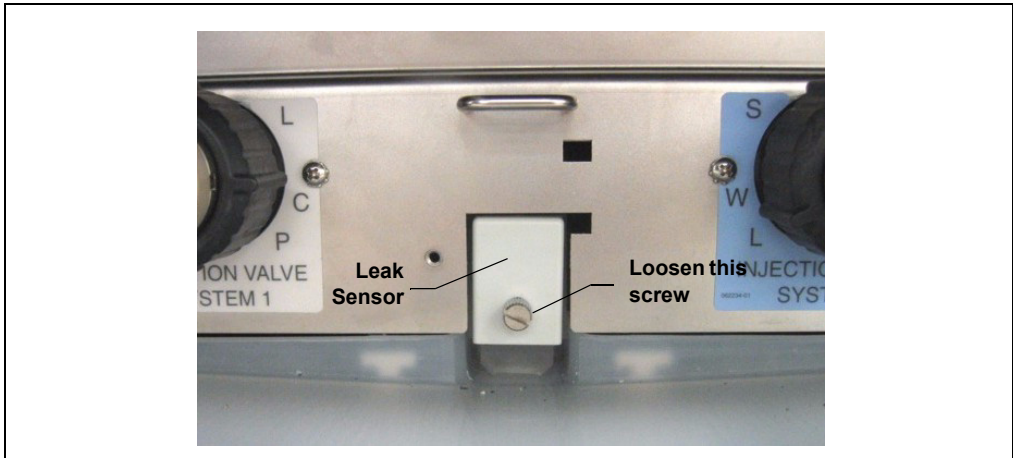

Figure 9-21. Leak Sensor
4. Loosen the screw on the front of the leak sensor (P/N 062437) (see Figure 9-21). **Note:** The screw remains attached to the sensor.